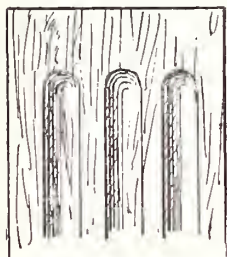

Fig. 123.—Flutes.
*Flutes* or hollows are worked in the same way as beads, and are often used in decorating ends, as in Fig. 123. Small flutes and beads, when combined on an edge, are generally in workshop parlance classed as beading, though of course when merely a verbal definition is given greater accuracy is necessary. Black or darkened flutes are often seen. They are coloured by the polisher.